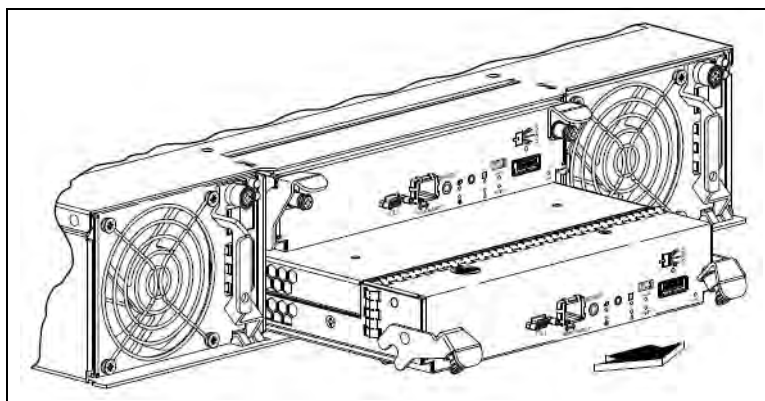

Figure C.48 - Removing a Controller Module
5. Pull the module straight out of the enclosure (**Figure C.48**).